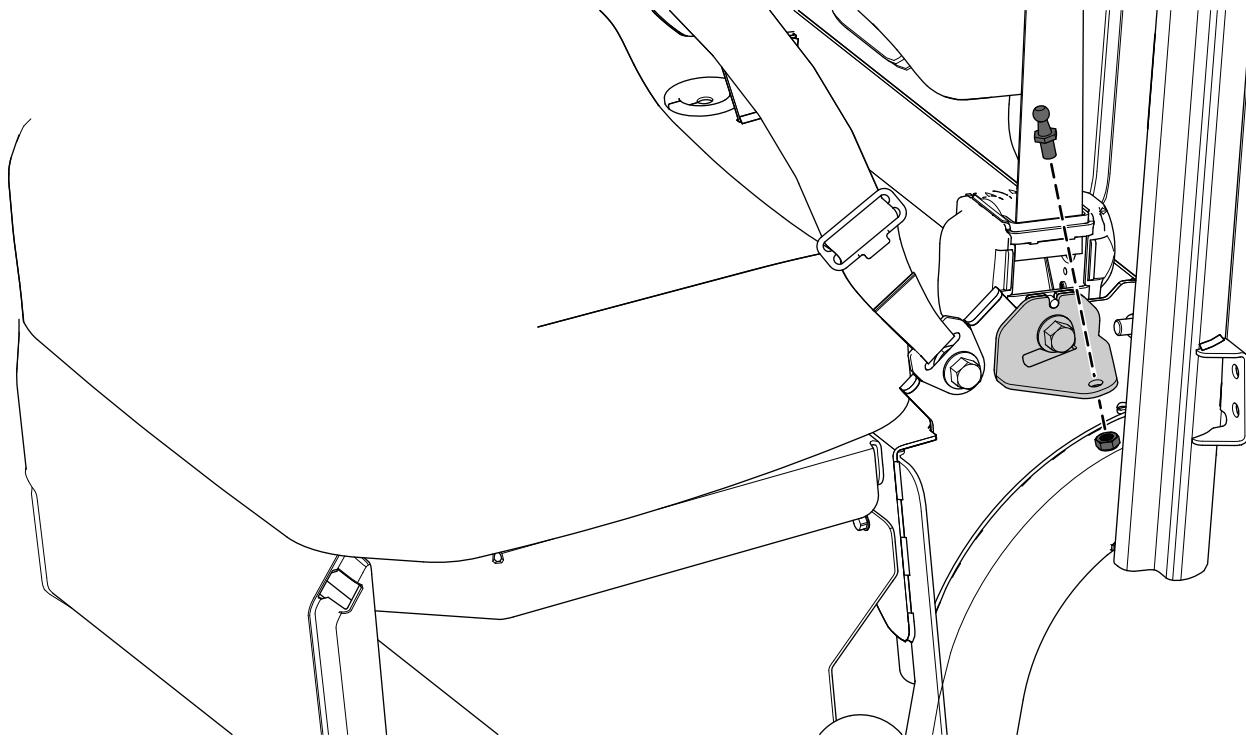

Figure 4
4. Secure a strut mount to the left door-strut bracket using a locknut (5/16 inch) as shown in Figure 4.